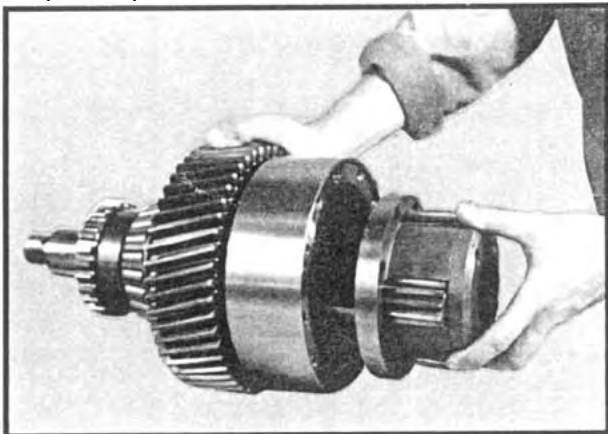

Fig 46
4. Guide the sun gear (front output shaft) into the planet gear carrier. Place the (4) planet gears into position in the carrier. The chamfered face of the cover should face away from the carrier. Install the (4) allen-head shoulder screws and torque to specification.
5. Make sure that the two dowel pins are in place inside the front differential case. Guide the planet carrier assembly into the front differential case assembly engaging the dowel pins. See Figure 46. Note that it is critical to the operation of the differential assembly that there be no nicks, burrs, or foreign matter between the two assemblies which would interfere with the proper seating of the carrier. Install the (6) 12-point cap screws to secure the planet carrier assembly in place. Tighten a crisscross pattern and torque to specification.